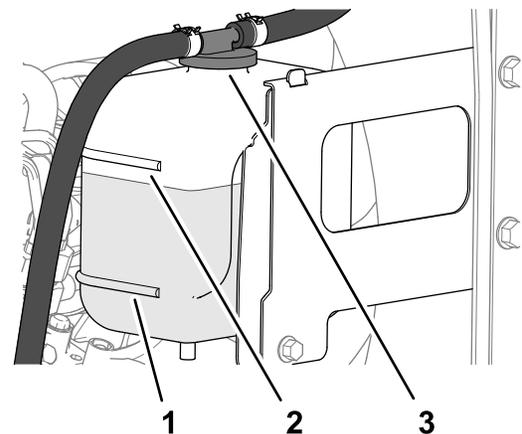

Figure 111
3. Check the level of coolant in the expansion tank (Figure 111).